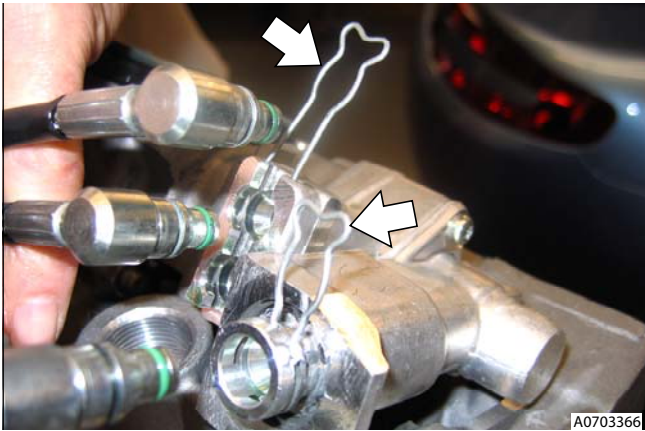

Figure 6
28. Remove and discard clips (x2) securing hoses into shifter assembly and disconnect hoses (see Figure 6).